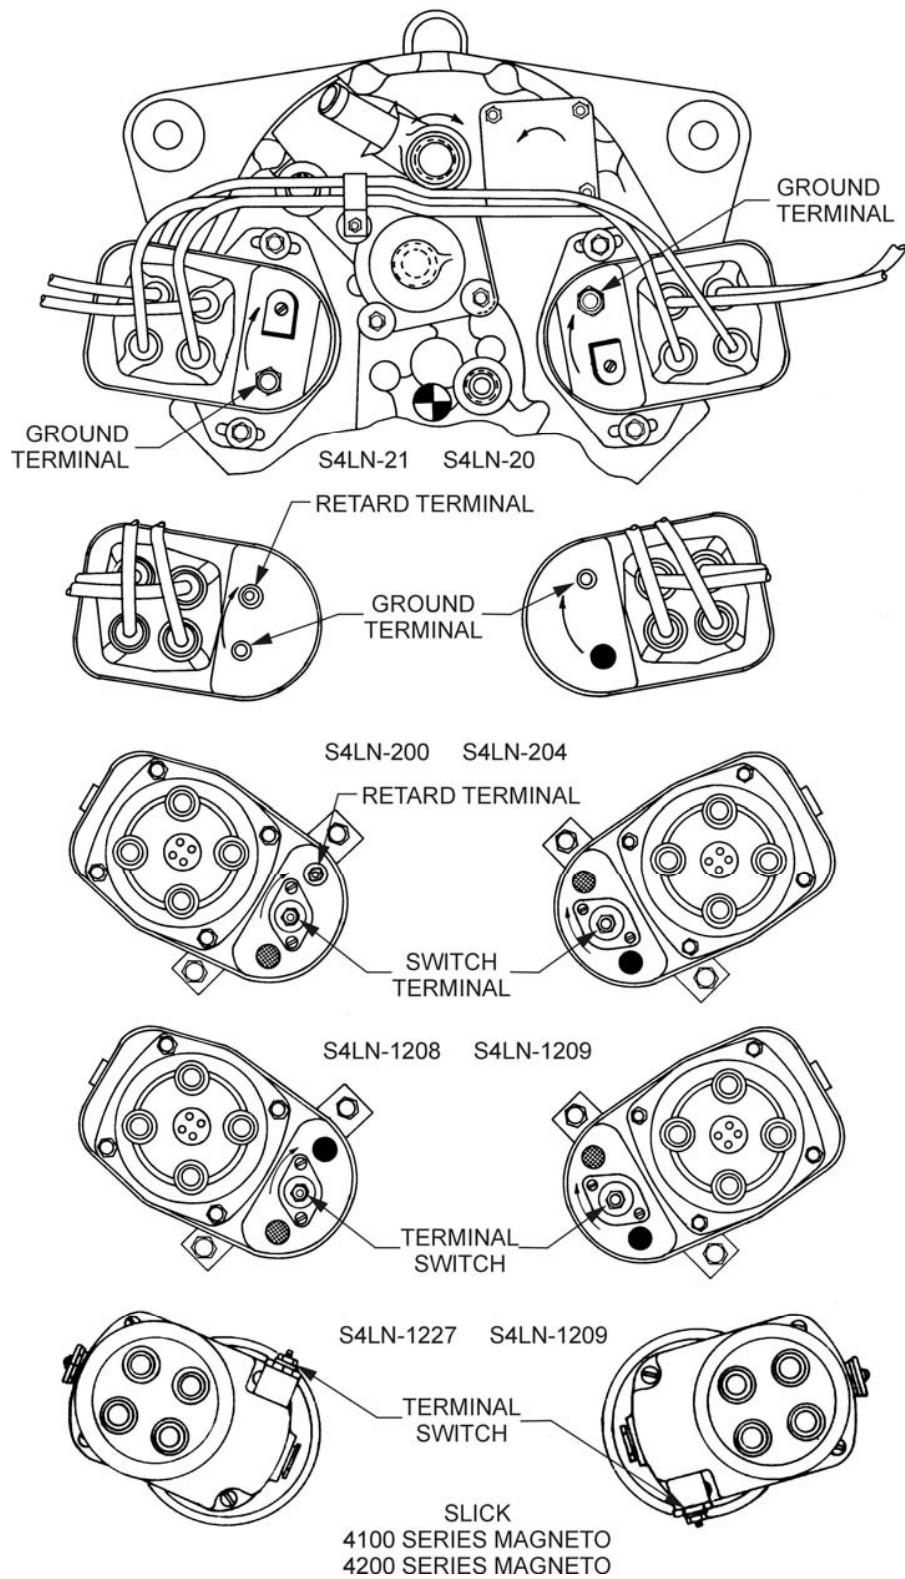

Figure 7-2. Magneto Connections
* SEE FIG. 7-2 FOR MAGNETO CONNECTIONS
*SEE FIG. 7-2 FOR MAGNETO CONNECTIONS